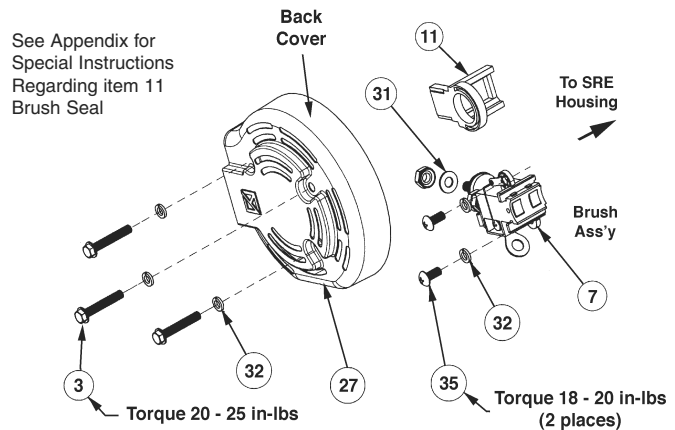

Figure 2 Brush Removal
13. Remove the two screws (35) and washers (32) that attach the brush holder assembly (7) to the slip ring end housing. Remove the nut from the ground stud that secures the brush holder assembly ground strap. Remove the brush holder assembly from the slip ring end assembly and inspect. *If replacing brush holder ass'y, discard the ass'y, lock washers and lock nuts.*
14. Remove brushes from holder and mark to indicate removed position and orientation. Inspect brushes for chipping or other damage including spring, cap, and wire. If damage appears to spring or there are broken strands in brush lead, discard brush. If no damage is apparent, measure the length of the brush. New brushes measure .5 inch (1.27 cm). To reuse the brush it must be .25 inch (.635 cm) or greater. If less than this figure, replace brush holder assembly (7). Inspect the flexible brush holder seal (11) for damage and replace as required. *(Never replace a single brush, replace as a set only!)*
15. If it is determined that the brushes are reusable, inspect the brush holder for cracks or other damage. Never reuse a damaged brush holder even if the brushes are good. Place each brush into the brush holder in the same position and orientation as removed. Place the orange rubber seal (11) over brush holder using the seal special installation instructions in the appendix at the end of this SIL. Depress each brush into it's pocket with a small wood or plastic dowel and slip a length of 22 gage insulated wire into the hole provided in side of the brush holder and seal. (See Fig. 2 inset.) The wire will retain the brushes for installation of the holder. *(A new brush holder assembly is shipped with retaining wire installed.)*
16. Install the new or refitted brush holder assembly with two retaining screws (35) and two new lock washers (32). Torque screws to 18 to 20 in-lbs. Spin rotor and check for interference between the brush holder and rotor. Remove the brush retaining wire allowing the brushes to snap into place. Reinstall the brush holder ground strap to the ground stud and torque per Table 1. Measure the resistance between the field (orange insulator) and ground terminal with an ohmmeter. Spin the pulley and note ohmmeter reading. Meter should read between 5.8 and 20 ohms while rotor is turning for a 24 volt alternator and between 2.8 and 20 ohms for a 12 volt alternator.
17. To complete the brush replacement, install the back cover (27) with three screws (3) and three *new* lock washers (32) and torque to 20 to 25 in-lbs. Reinstall the alternator if removed per the engine or airframe manufacturer's service or maintenance instructions or manuals. *Use only the latest revision.*